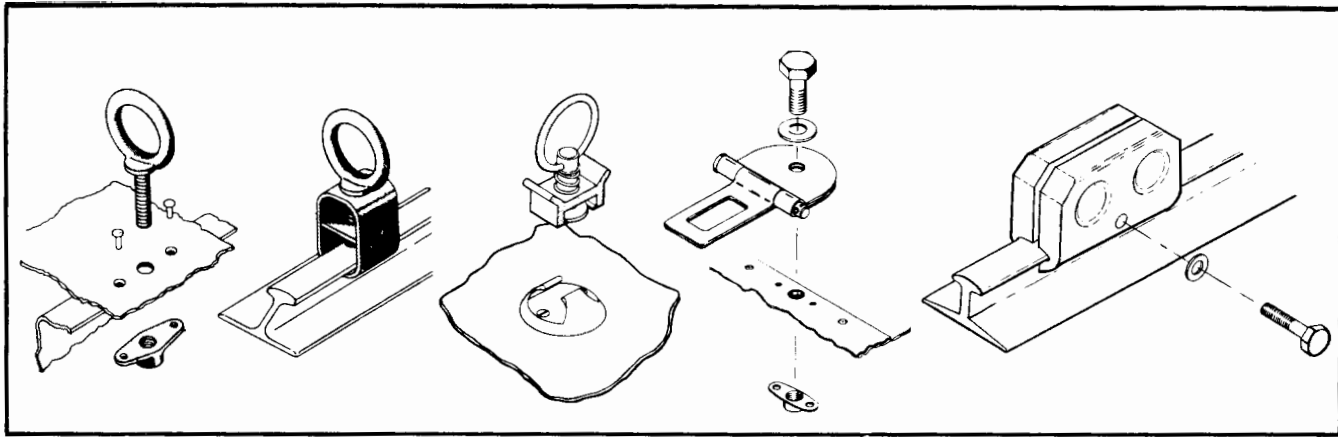

Figure 3-11. Cargo Tie-Down Rings
**3-50. CARGO TIE-DOWNS.** Cargo tie-downs are used to ensure baggage cannot enter seating area during flight. Methods of attaching tie-downs are illustrated in figure 3-11. The eyebolt and nutplate can be located at various points. The sliding tie-down lug also utilizes eyebolt and attaches to a seat rail. Different combinations of all four may be used.
3-54. **REAR VIEW MIRROR.** A rear view mirror may be installed on cowl deck above instrument panel. Figure 3-11 shows details of rear view mirror installation.